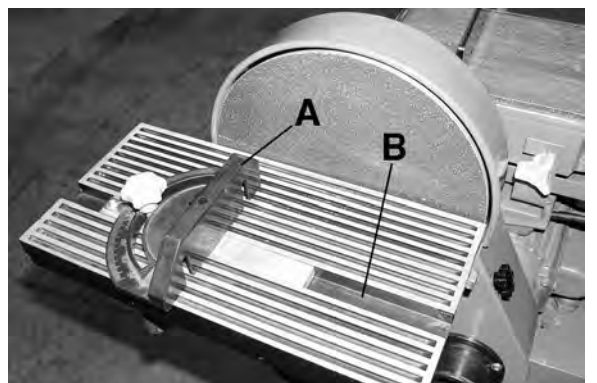

Figure 12
Slide the miter gauge assembly (A) Fig.12 into the tilting table slot. The miter gauge is now ready to be used.